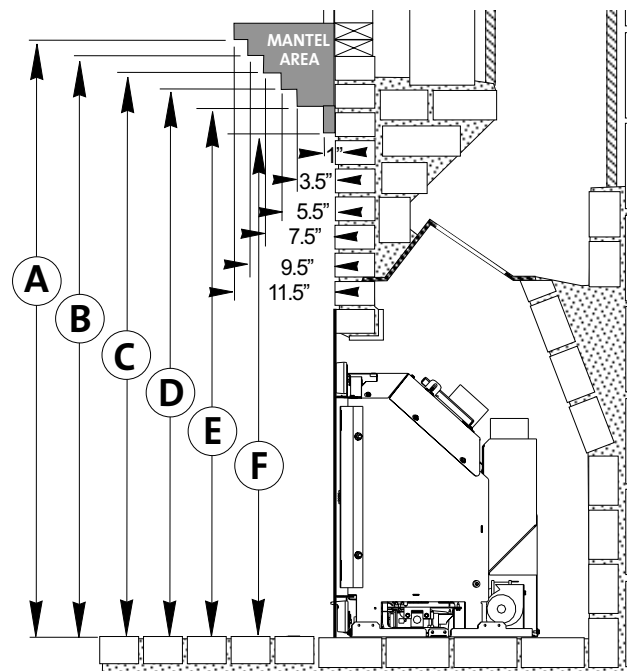

Figure 5. Baseline Mantel and Trim clearance requirements.
- F: Mantel Clearance from hearth: See fig. 5**
When raising the firebox up to 2", mantel and hearth clearances remain unchanged from those specified in fig. 5.